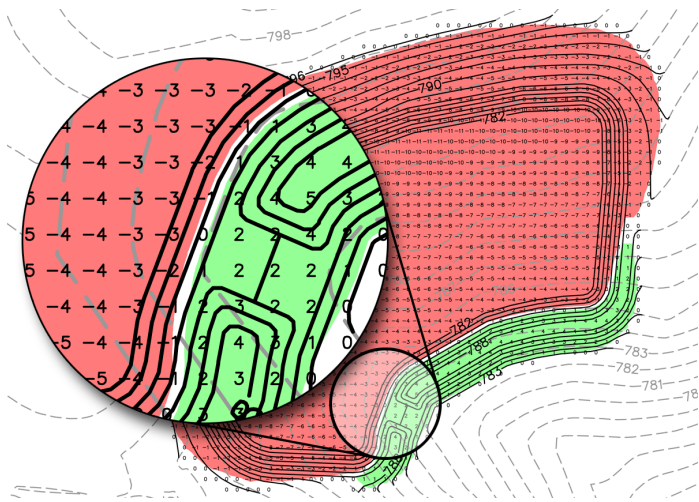

Figure 11: The size of the overall grid (and its squares) determines the placement of the cut/fill labels.
- ♦ **Base Point** - Select a point to define the lower left corner of the grid. Refer to Figure 11. **Grid Rotation = 0** (Non-rotated grid)